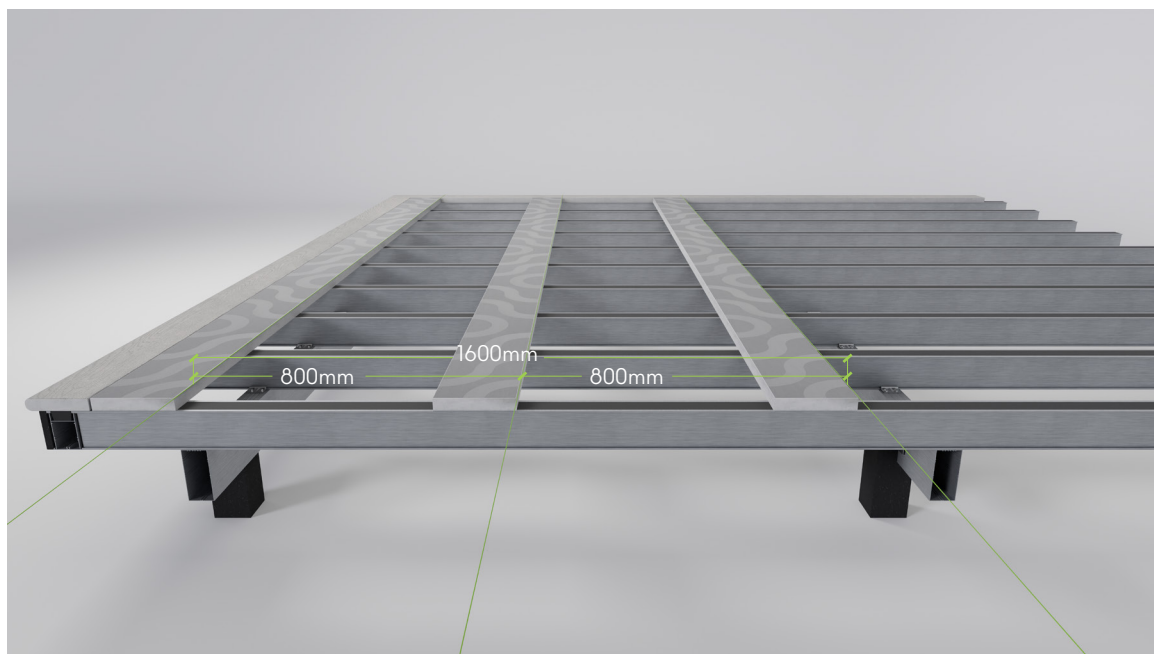

Fig. 6
6. Now measure 1600mm (2x 800mm or 8 rows of boards) from the first row and fit a 2nd row of decking to the string line. Continue to install guide rows of decking boards for as long required across the deck or area to be covered in Modello. To keep the boards parallel and square, it is best to measure the guide rows from the 1st row where possible (Fig.6)